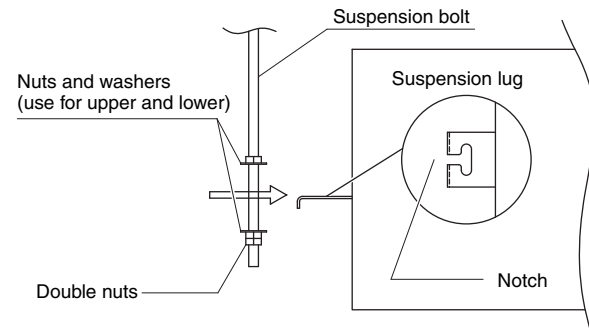

Fig. 3-88
- (3) Thread the 3 hexagonal nuts and 2 washers (field supply) onto each of the 4 suspension bolts as shown in Figs. 3-88 and 3-89. Use 1 nut and 1 washer for the upper part, and 2 nuts and 1 washer for the lower part, so that the unit will not fall off the suspension lugs.